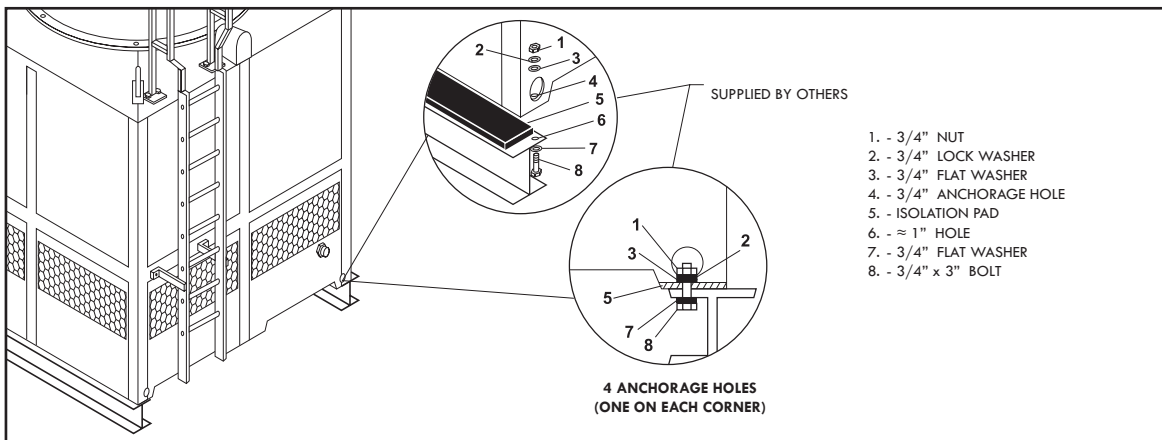

Figure A-12: Typical anchorage for double fan tower
- E. Place the tower section (Basin and Body) on top of the isolation pad and the base, making sure that the anchorage holes on the bottom of the tower are aligned with the perforations on the base. Then proceed to bolt it down and secure it with stainless steel nut and bolt sets (supplied by others, see Figure A-12).